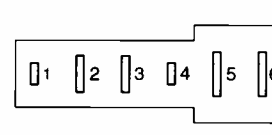

Fig. 4: Philips connector. 1 NC; 2 battery; 3 SW A+ out; 4 illumination; 5 A+ ignition; 6 earth.
(3) The 'Philips' connector, see Fig. 4. Consists of two large and two or three smaller pins in a straight line for the power connector. These radios are getting rather old now but still turn up quite often. The system is also used by Blaupunkt. The speakers are individually connected to these radios, using plugs with the same pin configuration as the domestic hi-fi DIN speaker plug but with a smaller body.